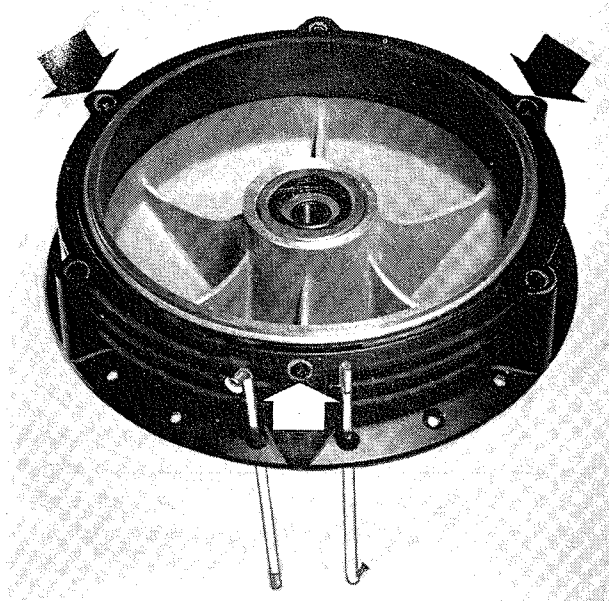

Fig. 4
4. Then assemble the remaining short spokes by every second bolt-hole in the same way. See figure 4.